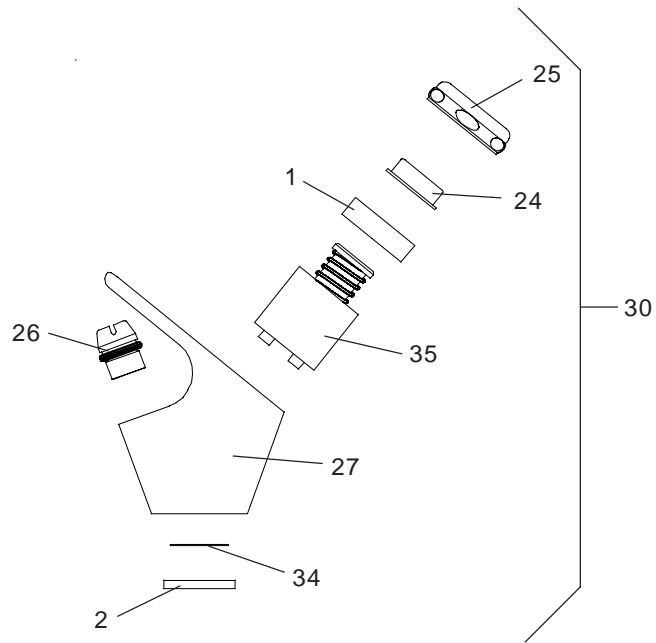

FIG. 5
This can be accomplished by depressing the cooler push button (See Fig. 5 - Item 24). Keep water running during the entire readjustment procedure.
**STREAM HEIGHT ADJUSTMENT:** Stream height is factory set at 45-50 PSI. If supply pressure varies greatly from this, remove items 24 and 25 (See figure 5) from bubbler assembly and adjust the screw on the regulator (Item 35). Clockwise adjustment will raise stream height and counterclockwise will lower the stream height. A stream height of 1-1/2" (38mm) is recommended.